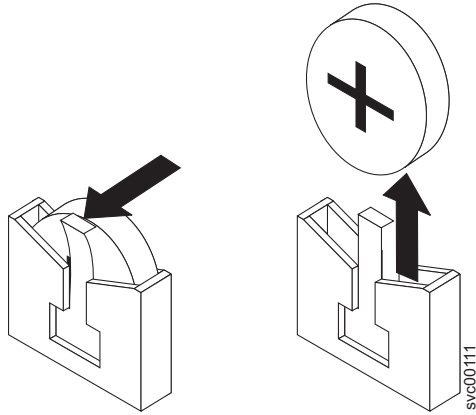

Figure 174. CMOS battery holder
- a. Use one finger to pull the retainer tab, which is shown in Figure 174 on page 504, that secures the battery to its housing.